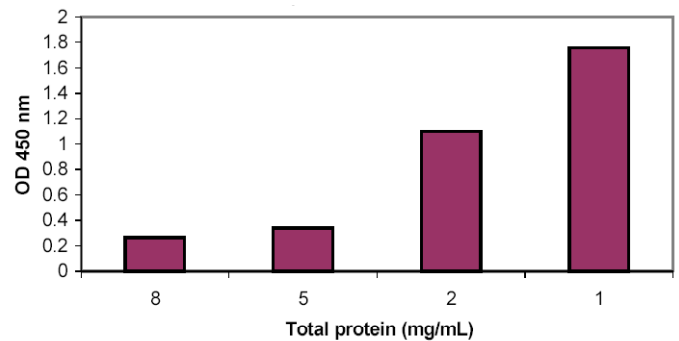

Fig. 2 Effect of boiling on Erk1&2 (pThr¹⁸⁵/pTyr¹⁸⁷) recovery
- The data in Figure 2 show that protein concentrations above 2.5 mg/mL negatively affected the ELISA signal. perhaps due to protein aggregation or precipitation after boiling.